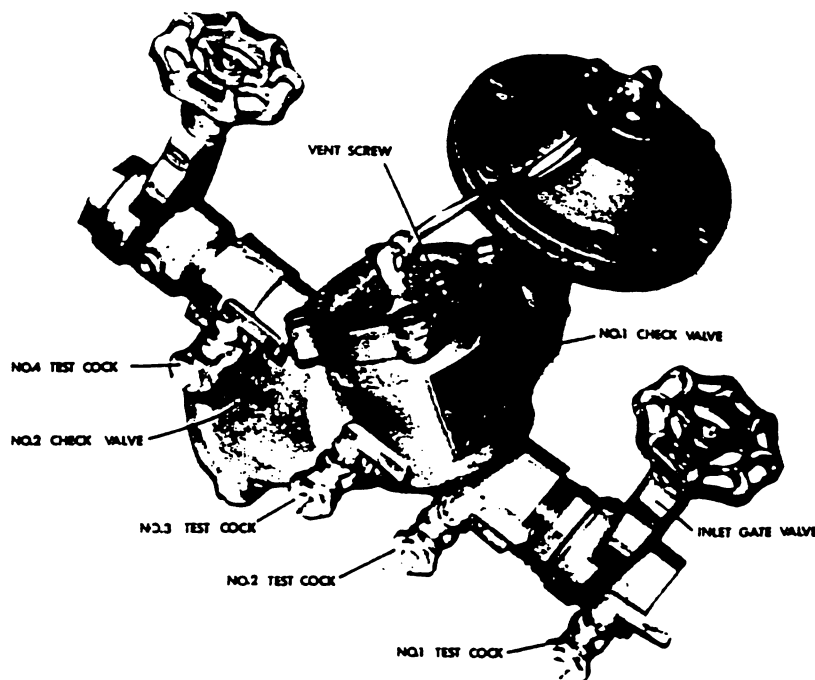

FIGURE 1. NOMENCLATURE
2. The Model 575 Backflow Preventer must be installed in a horizontal position (Fig. 1) to provide proper operation of the relief valve.
The cast arrow on the side of the unit must point in the direction of water flow (Fig. 1).
1. Start with both gate valves closed. Slowly open the inlet gate valve until the backflow preventer is completely pressurized (Fig. 1).
6. Slowly open the discharge gate valve. The Model 575 Reduced Pressure Principle Backflow Preventer is now in service (Fig. 1).